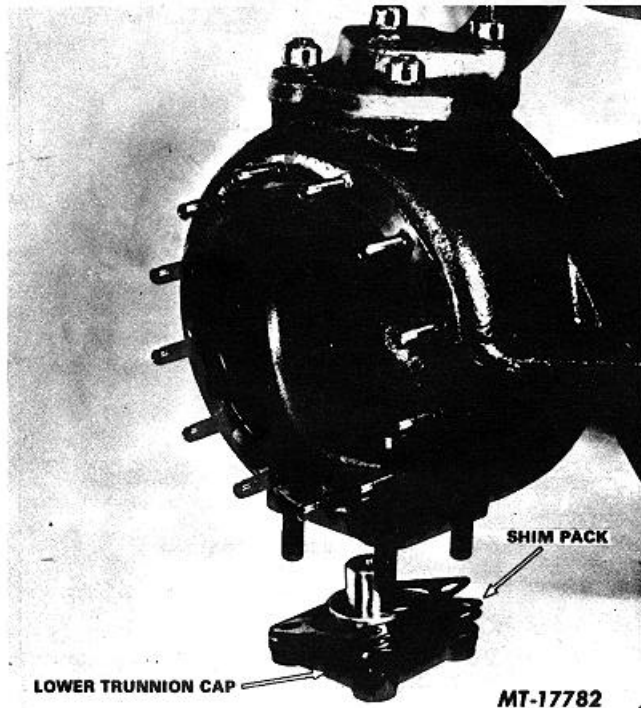

Fig. 6 Trunnion Cap and Shim Pack
- 6. Remove lower trunnion cap and shim pack (Fig. 6). Retain and mark shim pack for reassembly.